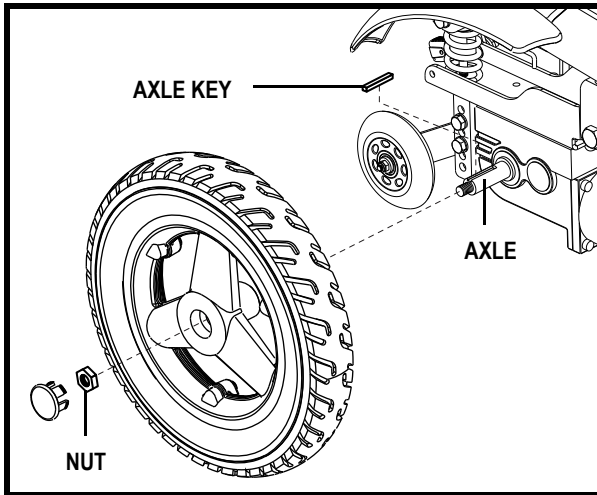

Figure 24. Vogue Drive Wheel
4. Remove the nut from the wheel hub. See figure 24.